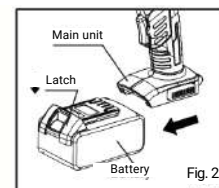

Fig. 2
(1) Charging the battery
- Remove the battery from the main unit by pressing the latch on the battery. (Fig. 2)